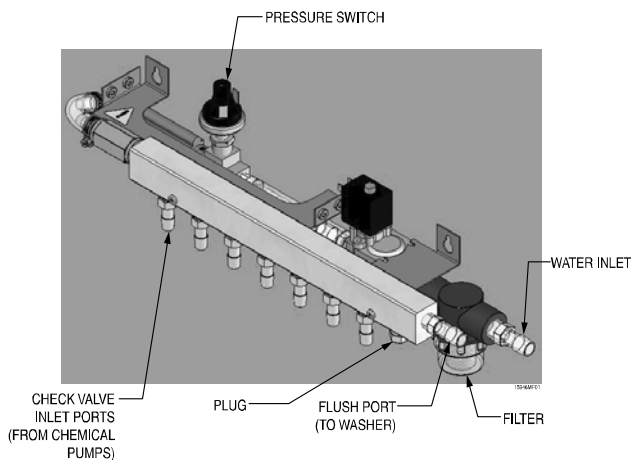

Figure 1. XL flush manifold
XL flush manifolds come with wall-mount keyholes pre-drilled in the manifold bracket. The manifold should always be mounted with the check valve inlet ports facing down as shown in Figure 1.
1. Connect the water inlet tubing to the manifold (see Figure 1).